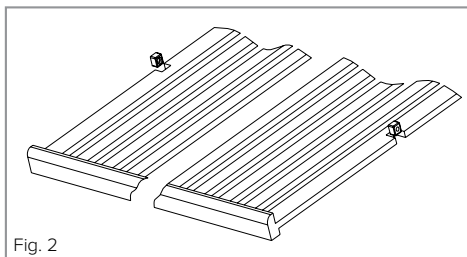

Fig. 2
- To remove a shelf from the wine cooler, first remove all bottles from the shelf, then pull the shelf forwards until the groove on either side of the shelf is level with the plastic peg on either side of the cabinet (as shown in Fig 2). Then lift the shelf up and pull forwards.